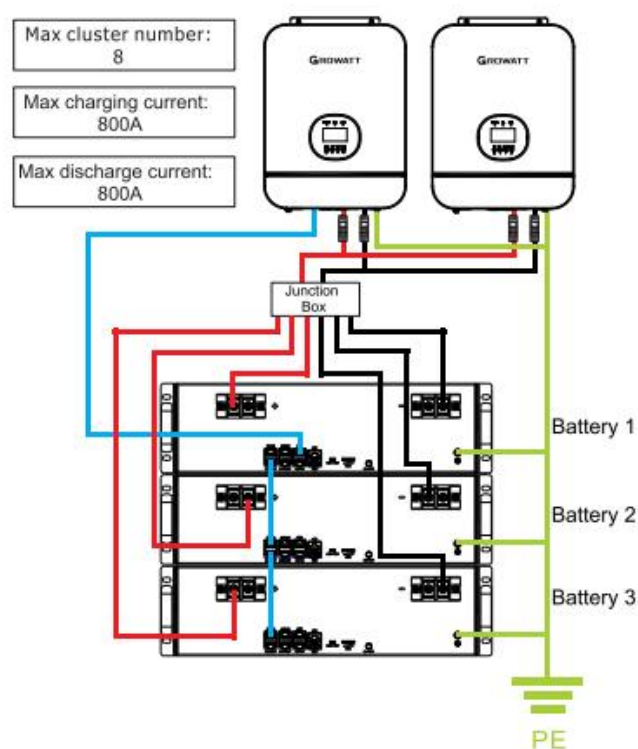

Figure 8: Installation Diagram for Power Expansion
- 2) Refer to Figure 8 for power cable wiring.